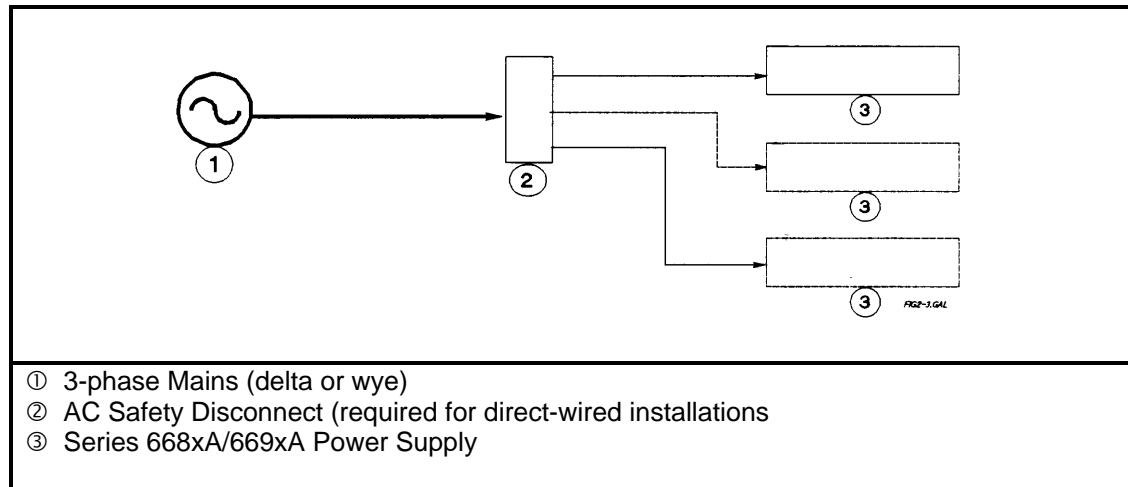

Figure 2-4. Series 668xA/669xA Overall Wiring Diagram.
The Series 668xA power supply requires a 3-phase power source that provides 7350 VA (6000 W) maximum. The supply has a delta input (no neutral connection) and will accept power from either delta (triangle) or wye (star) sources. Two voltage ranges are available (see "AC Input Ratings" in Table 1-4a). *In order to maintain phase current balancing, the power source should be a dedicated line with only Agilent Technologies Series 668xA/669xA supplies drawing current from it.* A disconnect box located near the power supply (see Figure 2-4) is recommended for all installations and is mandatory for direct-wired installations.
The Series 669xA power supply requires a 3-phase power source that provides 9000 VA (7950 W) maximum. The supply has a delta input (no neutral connection) and will accept power from either delta (triangle) or wye (star) sources. Two voltage ranges are available (see "AC Input Ratings" in Table 1-4a). *In order to maintain phase current balancing, the power source should be a dedicated line with only Agilent Technologies Series 668xA/669xA supplies drawing current from it.* A disconnect box located near the power supply (see Figure 2-4) is recommended for all power cords with plugs and is mandatory for hard-wired power installations.
- c. **Series 668xA** - Unscrew the fuse caps from the rear panel (2, Figure 2-4). Verify that the fuse is as specified on the label. Replace the fuse.